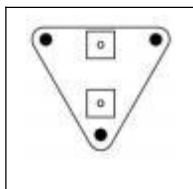

Fig.1.
- 1). Use wall panels(2) to set the required fans Position . mark three mounting holes,Drill three holes into the marked locations. Make sure your mounting area is structurally sound and free from obstruction.See the(Fig.1.)